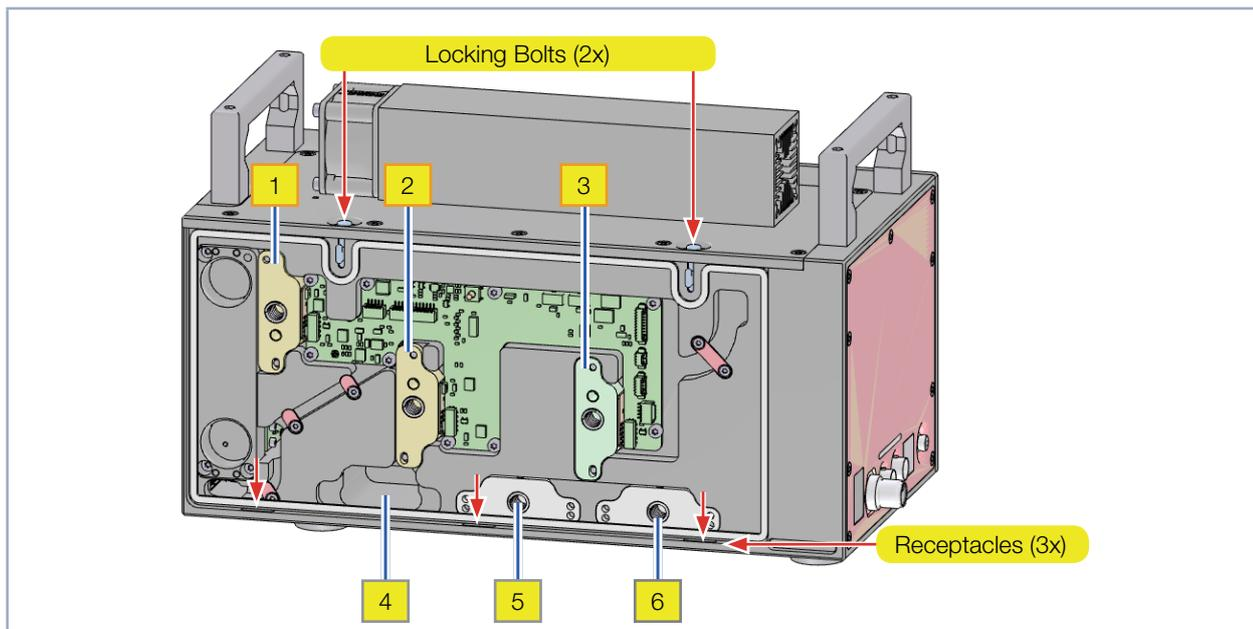

Fig. 11.1: Slot positions for the optical components
2. Press down two locking bolts (see Fig. 11.1 on page 32):
Optical components can be slid into the optical path of the LaserQualityMonitor LQM+ at three locations (see Fig. 11.1 on page 32, Positions 1, 2, 3).
3. Place the housing plate in the receptacles (see Fig. 11.1 on page 32).